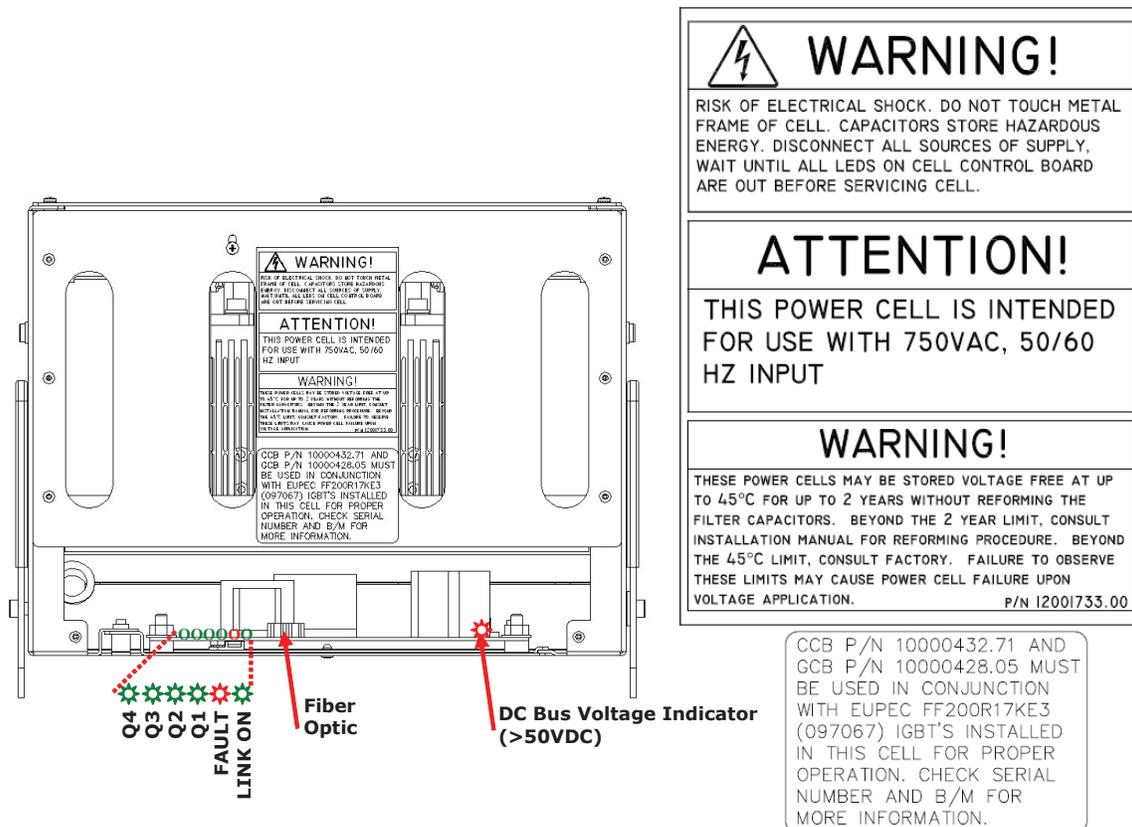

Figure 1-4: Indicators and Labels
7. The LEDs are an indication of stored energy within the power cell capacitors (see Figure 1-4). If all cell LEDs are not lit, remove polyglass plates located behind the swing-out control box. Where available, use ancillary AC voltage sensing devices to confirm the drive is de-energized.